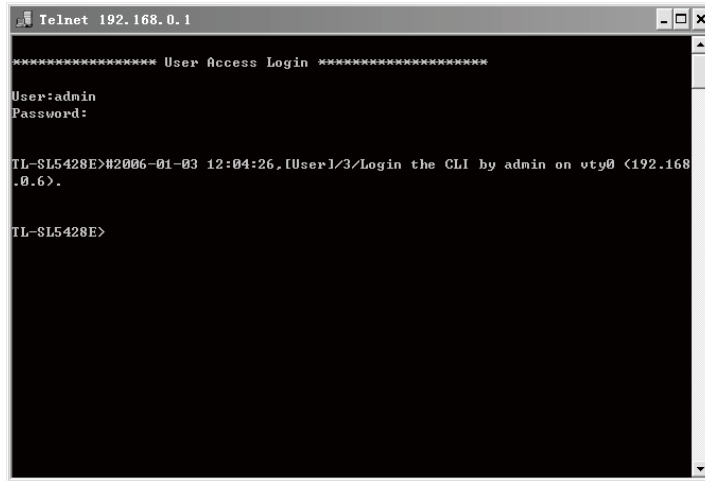

Figure 5-12 Log in the Switch
6. Type in the User name and Password (the factory default value for both of them is admin) and press the Enter button, then you can use the CLI now, which is shown as Figure 5-12.